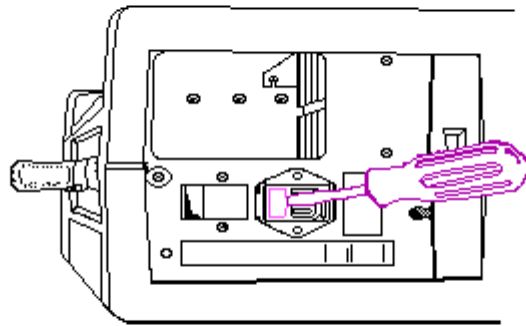

Figure 7.8-14. Inserting a Screwdriver and Prying Out the Fuse Box
3. Insert a flat bladed screwdriver along the bottom edge of the fuse box. Pry outward with enough pressure to force the fuse box out of the casing (Figure 7.8-14).